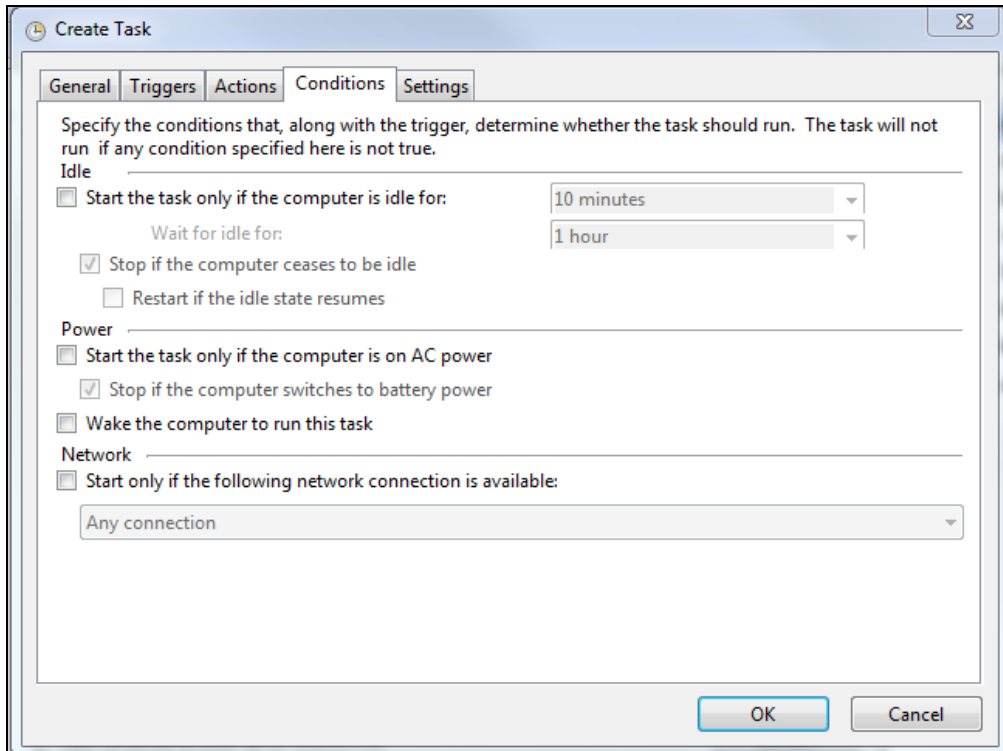

Figure 15: Configuring a Task – Conditions
- h. Under the “Conditions” tab, deselect “Start the task only if the computer is on AC power” (Figure 15).